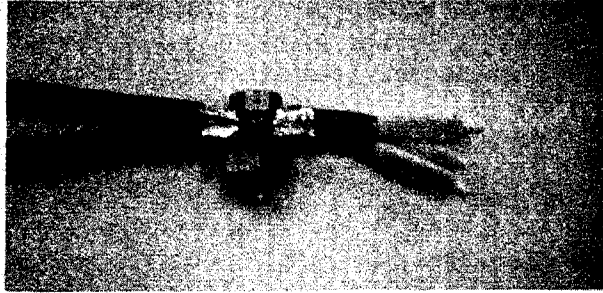

Figure 16
4.11 Join the respective service wire conductors using B Wire Connectors and the B Connector Pressor as shown in Figure 16.